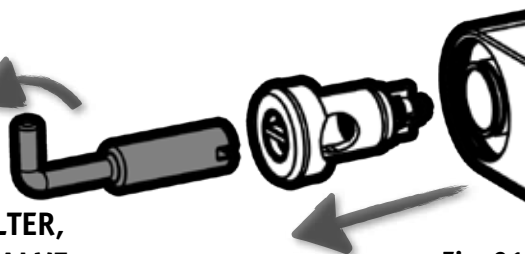

Fig. 31
4) Using the FILTER HOUSING REMOVAL TOOL (provided), turn the FILTER HOUSING 21 housing 1/4 turn to make it pop out and recover the O-RING if it is left in (Fig. 31)